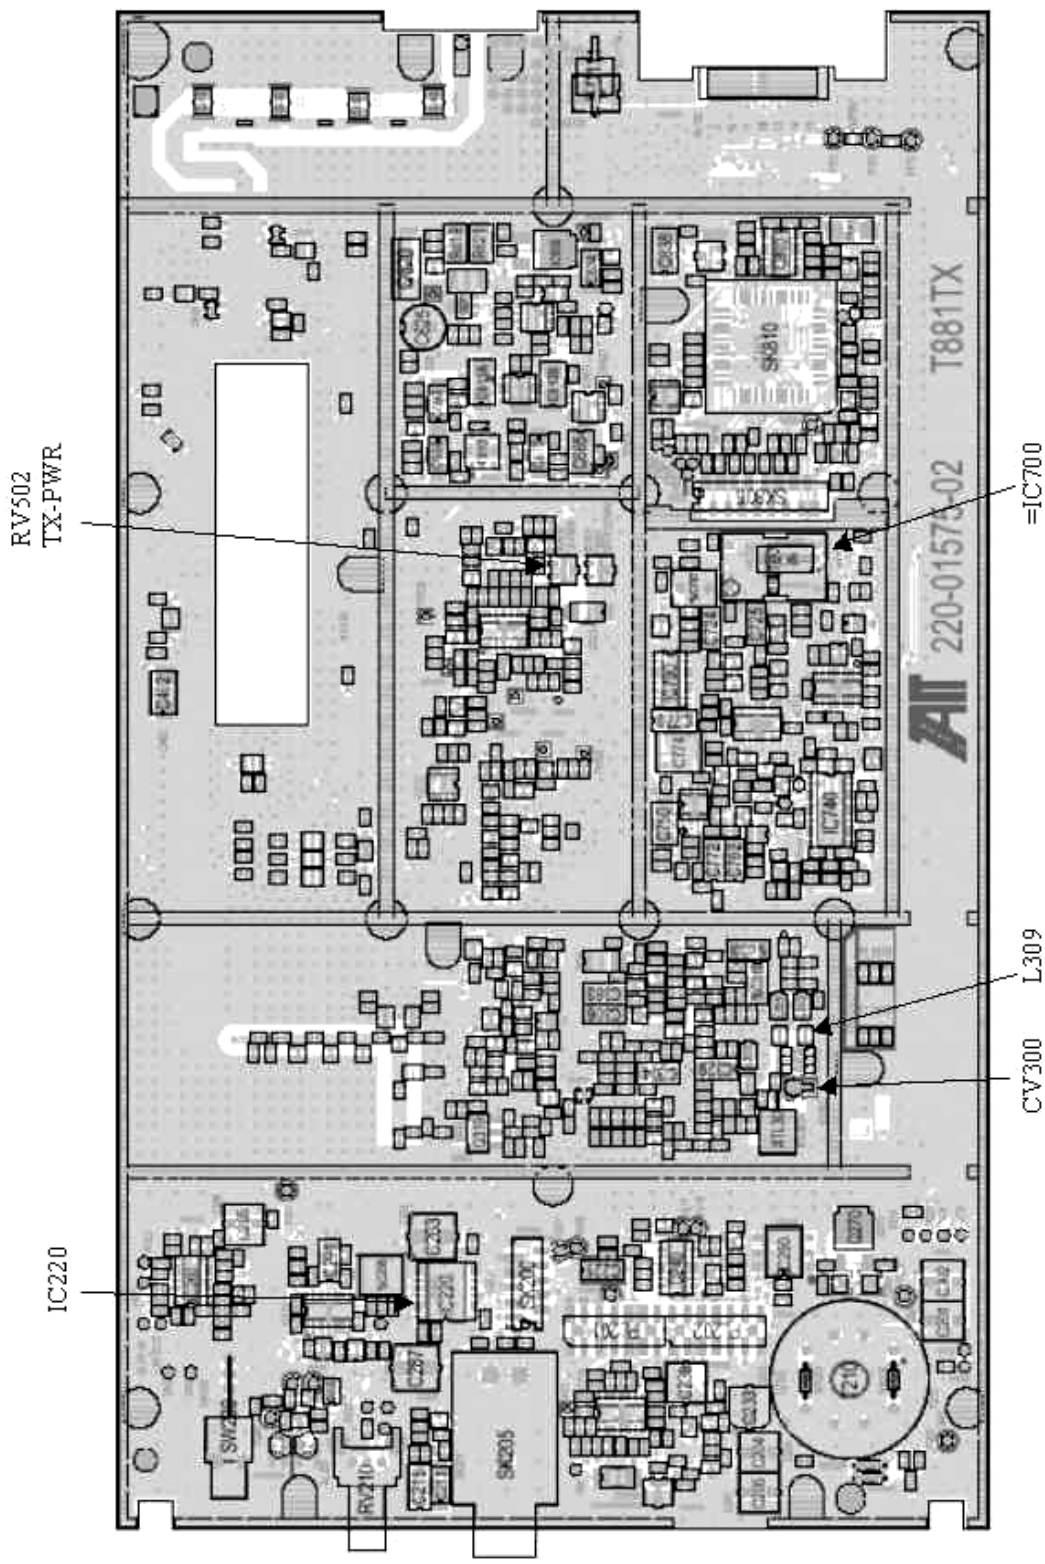

Figure 21 - T881-0200 Exciter Tuning Controls location
Note 1: Refer to Figure 21 (T881), Figure 23 (T857) for locating tuning controls and components.
- 800 MHz (T881) = $4\text{W} \pm 300\text{mW}$ (RV502, Figure 21)